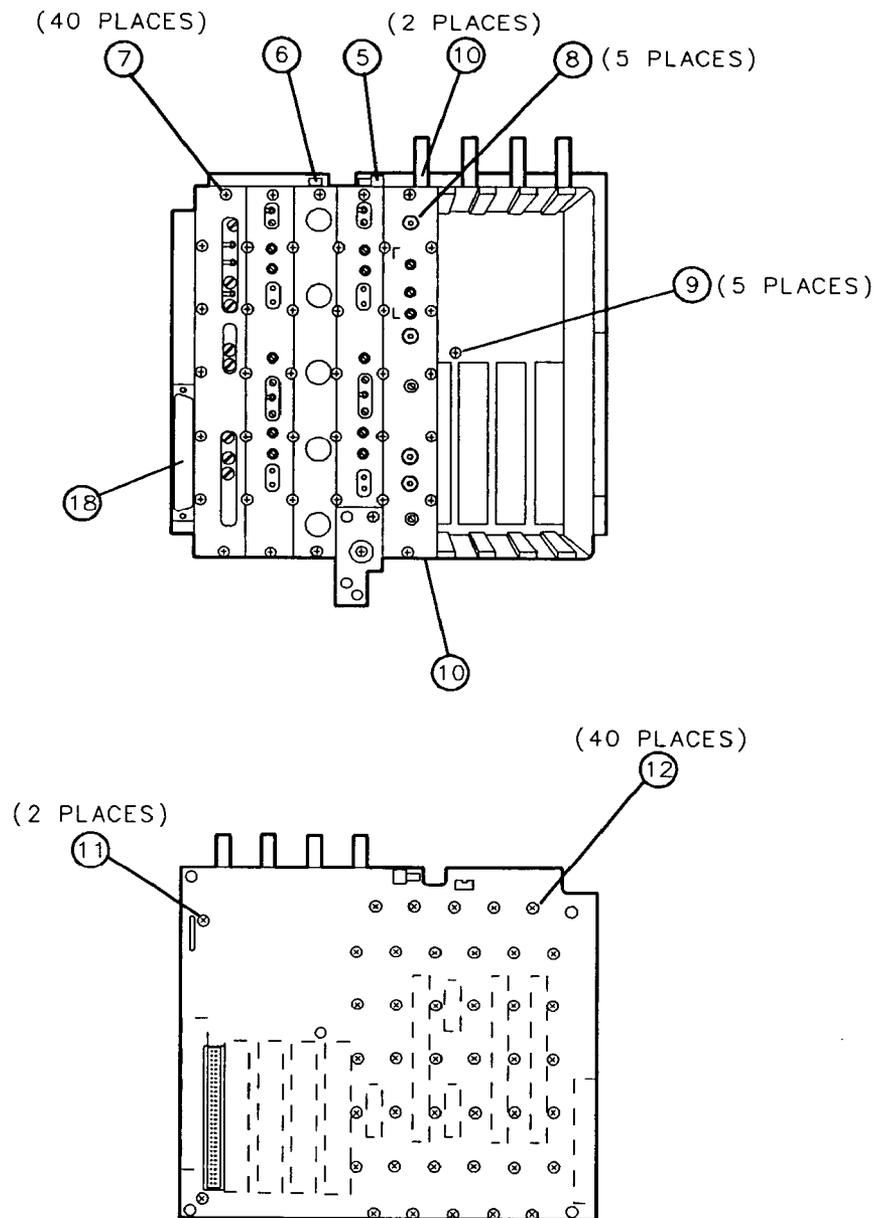

Figure 3-8. A15 Motherboard with IF Section
9. Disconnect the W19 coaxial cable (5) from A15J18 at the rear of the instrument. See Figure 3-8.
10. Disconnect the B1 Fan wire harness (6) from A15J19 at the rear of the instrument.
11. Remove the 40 screws (7) that secure the five IF board assemblies in the IF extrusion assembly.
The IF extrusion assembly contains one flat extrusion section. Make sure that the extrusion assembly is positioned with the flat extrusion end-section next to the A8 Power Supply connector (18). See Figure 3-8.